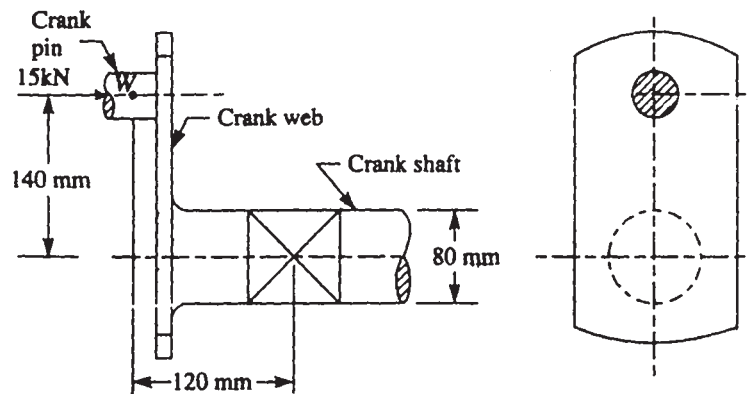

Fig. No. 1
- a) An overhang crank with pin and shaft is shown in Fig. No. 1. A tangential load of 15 kN acts on the crank pin. Determine the maximum principal stress and the maximum shear stress at the centre of the crankshaft bearing.